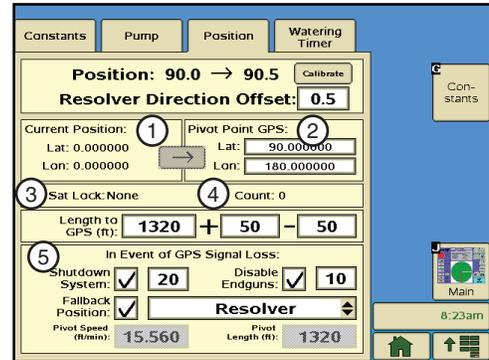

Figure 42-1 1. Current Position
- (a) Push the **Setup** button (F) on the Main screen.
- (b) Push the **Constants** button (G) on the Setup screen.
2. When GPS Position is working, the Position screen displays the fields listed below. See Figure 42-1.